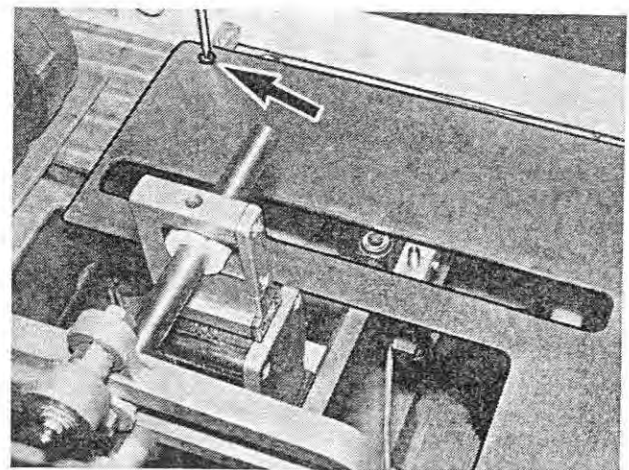

Fig. 64
1. Unscrew the locking screw (Figure 64/arrow) of the cover plate and remove the plate.